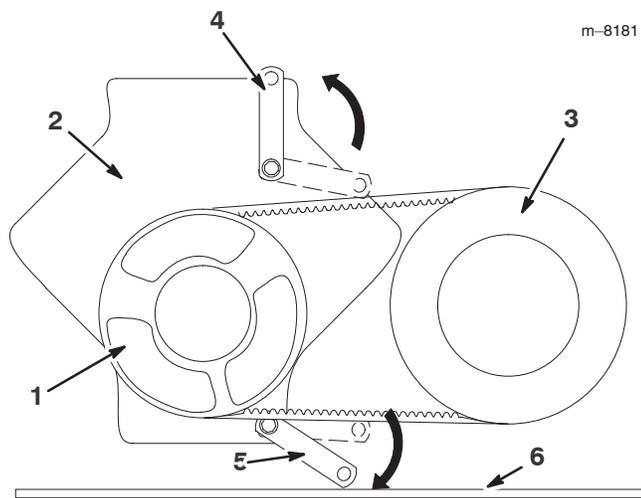

Figure 2
1. Use a 5/8 inch crow foot wrench with a 9 inch extension or an equivalent to loosen the bolts securing the belt guides to the engine (Fig. 2).
2. Rotate the upper belt guide upward to a vertical position so that it will not interfere with any parts (Fig. 2).